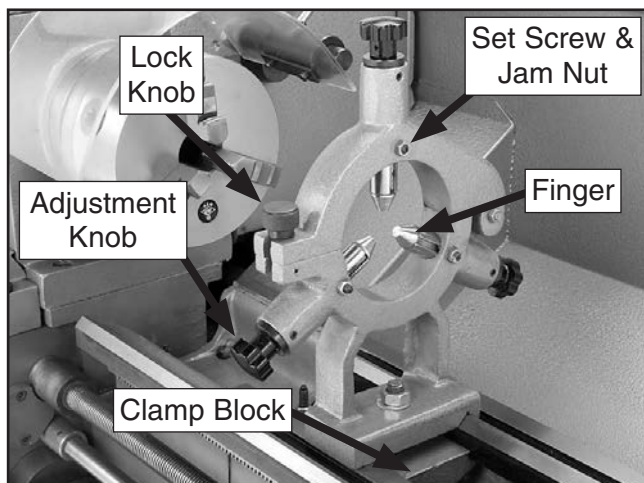

Figure 42. Steady rest controls.
3. Position the steady rest on the bedway so the triangular notch fits over the rear angled rail of the bedway, as shown in **Figure 42**, then re-install and tighten the clamp block.
5. Loosen the jam nuts and set screws (see **Figure 42**), turn the adjustment knobs to fit the fingers snug to the workpiece, then re-tighten the set screws and jam nuts.